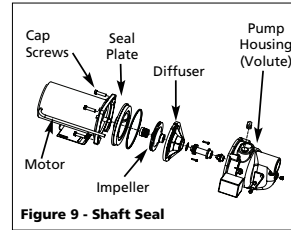

Figure 9 - Shaft Seal
2. Remove the four cap screws holding the pump housing (volute) to the motor (Figure 9).